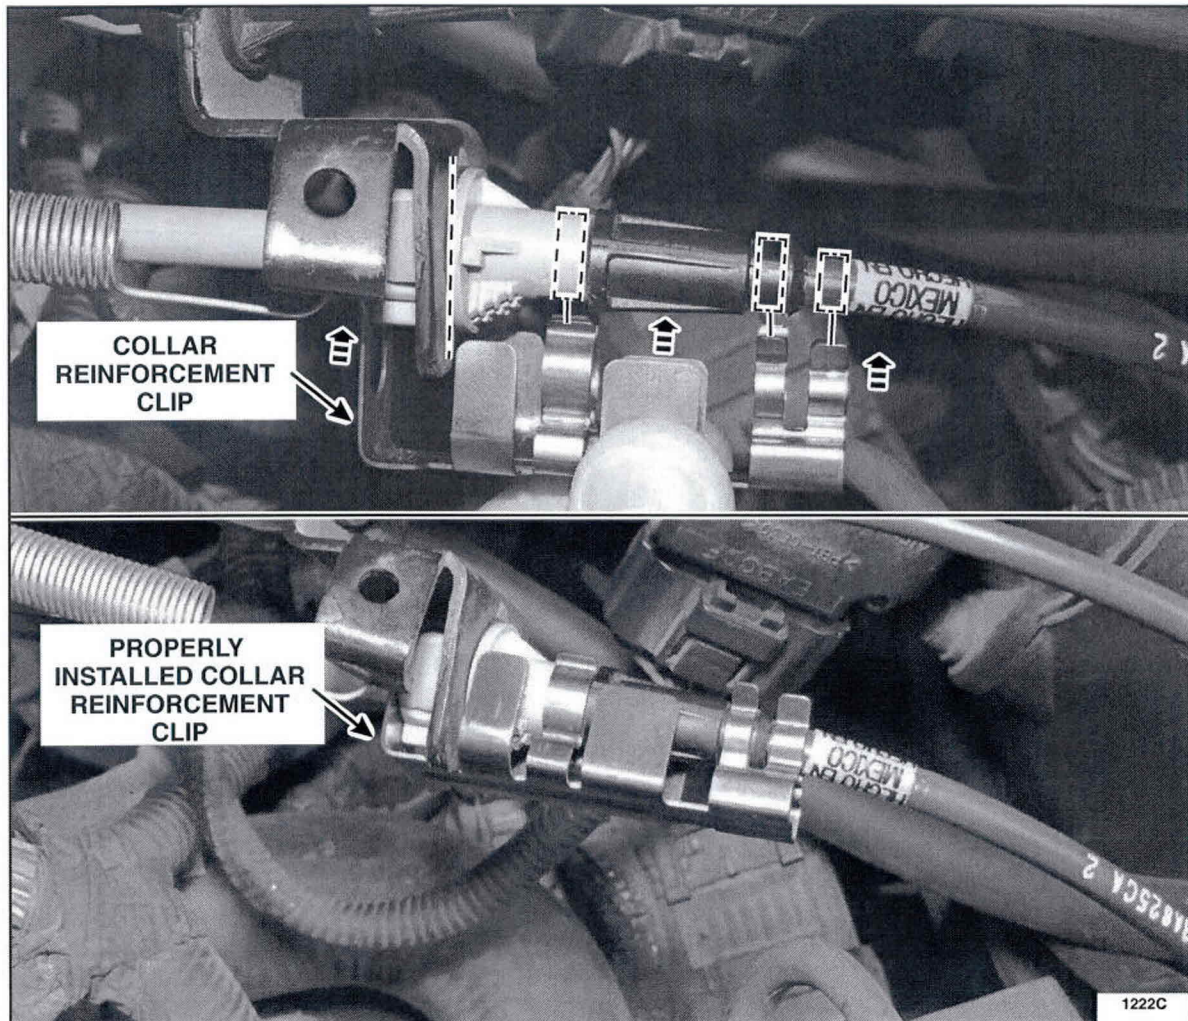

FIGURE 2
1. Align the tabs of the *new* Collar Reinforcement Clip as shown and install it onto the Speed Control Cable. See Figure 2.